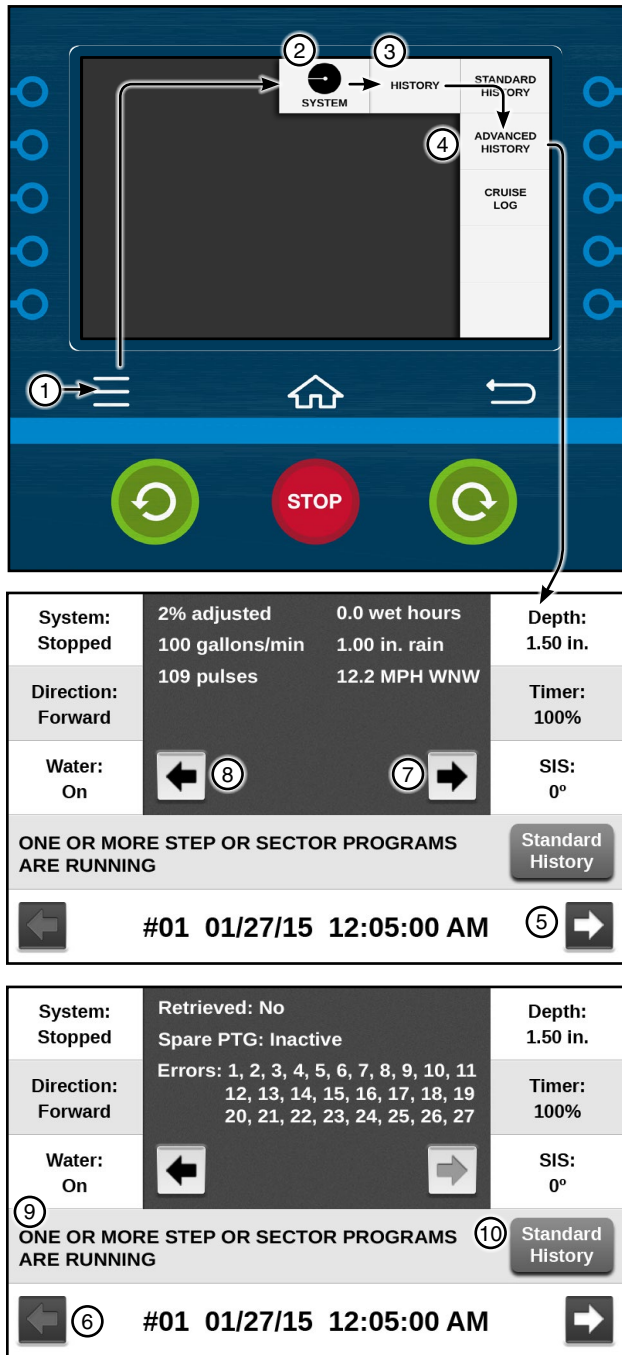

Figure 70-1
The Advanced History Screen displays a record of all statuses and error codes related to the history record. Refer to Figure 70-1.
1. To view Advanced History, push **Menu**, **System**, **History**, and **Advanced History**. See Figure 70-1.